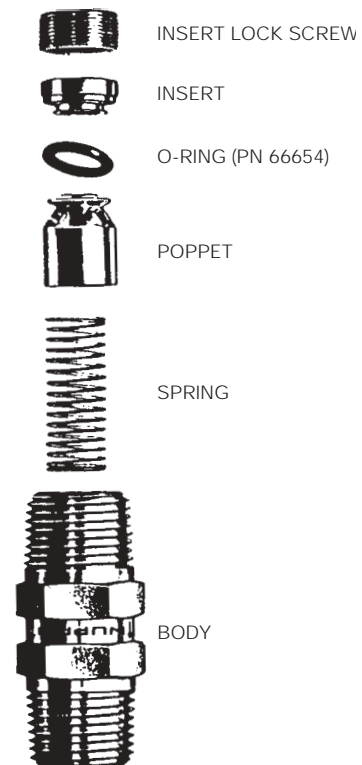

Figure 3-2. Nitrogen Inlet Check Valve Assembly (PN 60263)
3. Reassemble the check valve per as shown in Figure 3-2 on page 14.